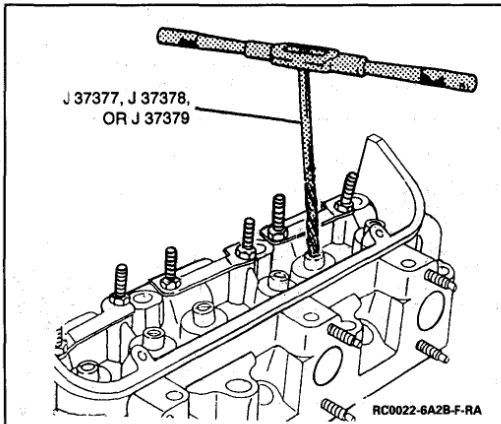

Figure 56 Reaming Valve Guide
- The valve guides may be reamed oversize and an oversized valve installed (Figure 56).